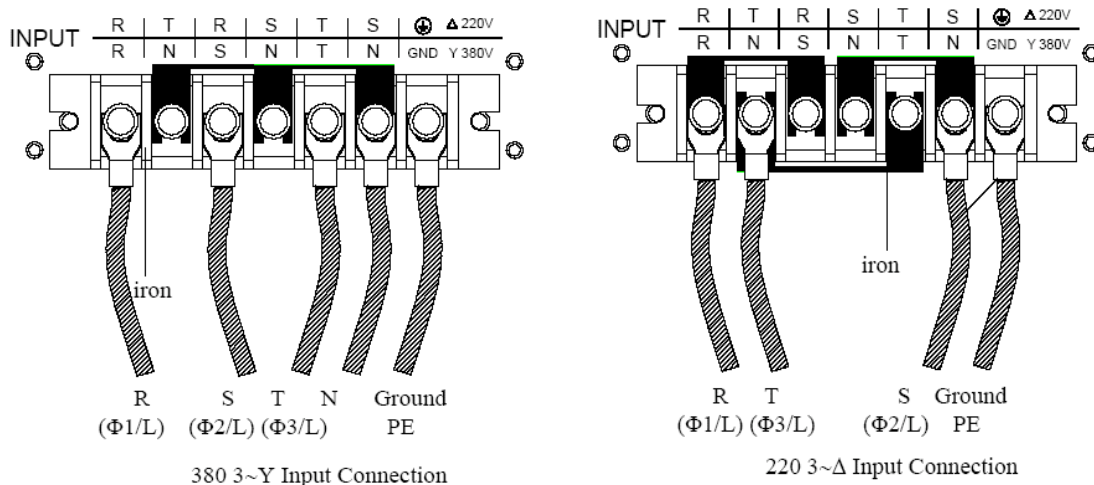

Figure 3-1 Connecting AC INPUT Wires for 43000-6
- (1) The input connector is located at the right side of the rear panel.
- (2) The power cord must be at least 85°C rated.
- (3) The rating of power cord must be between 12AWG to 10AWG.
- (4) See Figure 3-1 and follow the steps below for the assembly: